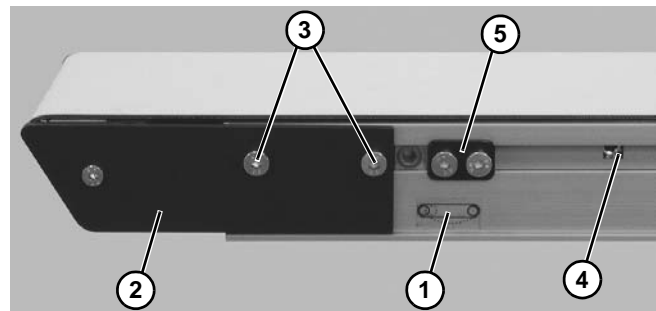

Figure 41
1. On tension end of the conveyor, identified with a  label (**Figure 41, item 1**), adjust head plate assembly (**Figure 41, item 2**): On both sides of conveyor, loosen fastening screws (**Figure 41, item 3**) and rotate pinion gear (**Figure 41, item 4**) to adjust head plate assembly.
- After adjusting proper tensioning, tighten fastening screws (**Figure 41, item 3**) on both sides of conveyor to 60 in-lb (7 Nm).
- If equipped with cam tracking assemblies (**Figure 41, item 5**) position against head plates and adjust belt tracking. Refer to "Conveyor Belt Tracking", next section.